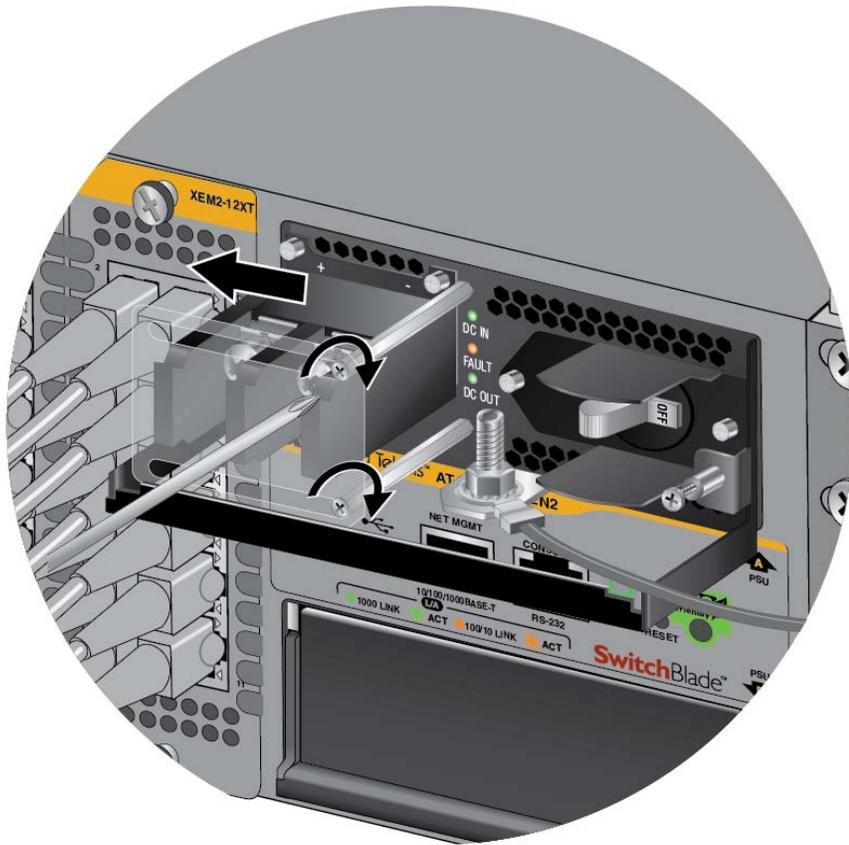

Figure 117. Closing the Plastic Cover
8. Slide the plastic cover to the left and lightly tighten the two screws to secure it in place. Refer to Figure 117 on page 196.